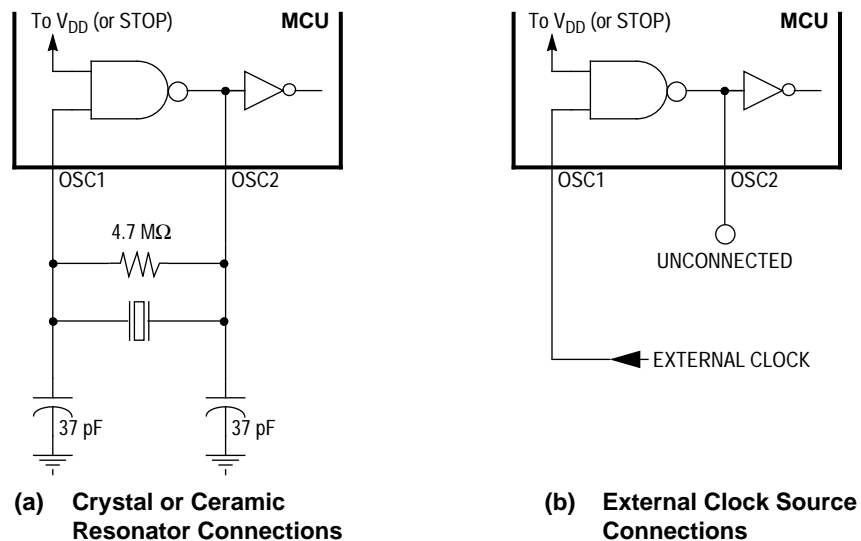

Figure 1-2. Oscillator Connections
1. A crystal as shown in Figure 1-2\(a\)
2. A ceramic resonator as shown in Figure 1-2\(a\)
3. An external clock signal as shown in Figure 1-2\(b\)
The circuit in **Figure 1-2(a)** shows a typical oscillator circuit for an AT-cut, parallel resonant crystal. Follow the crystal manufacturer's recommendations, as the crystal parameters determine the external component values required to provide maximum stability and reliable startup. The load capacitance values used in the oscillator circuit design should include all stray capacitances. Mount the crystal and components as close as possible to the pins for startup stabilization and to minimize output distortion.
In cost-sensitive applications, use a ceramic resonator in place of a crystal. Use the circuit in **Figure 1-2(a)** for a ceramic resonator and follow the resonator manufacturer's recommendations, as the resonator parameters determine the external component values required for maximum stability and reliable starting. The load capacitance values used in the oscillator circuit design should include all stray capacitances. Mount the resonator and components as close as possible to the pins for startup stabilization and to minimize output distortion.
An external clock from another CMOS-compatible device can be connected to the OSC1 input, with the OSC2 input not connected, as shown in Figure 1-2\(b\).